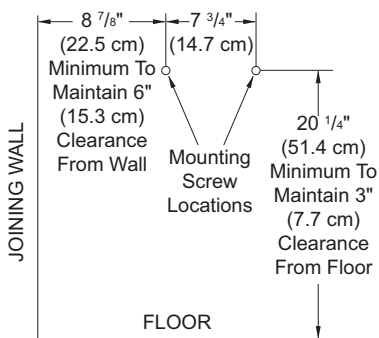

Figure 5 - Mounting Screw Locations
2. Mark two mounting screw locations on wall (see Figure 5).